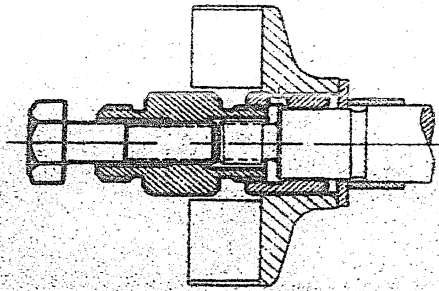

Fig. 16
b) removal of the cone sleeves from the water pump and drive shafts by means of a special tool (Fig. 16).